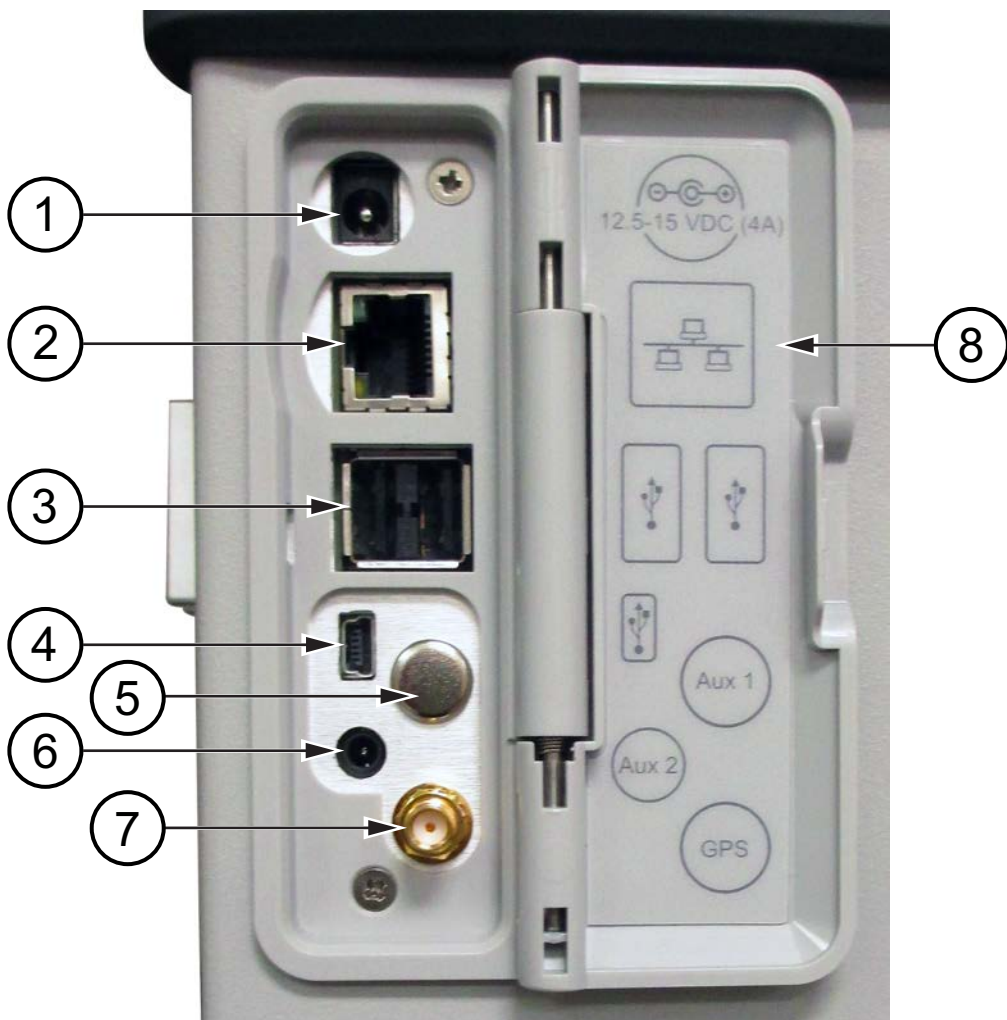

Figure 2-5. Side Panel Overview
(item 1 in Figure 2-5)
(item 2 in Figure 2-5)
(item 3 in Figure 2-5)
(item 4 in Figure 2-5)
GPS Antenna Connector (Option 31)**(item 7 in Figure 2-5)**